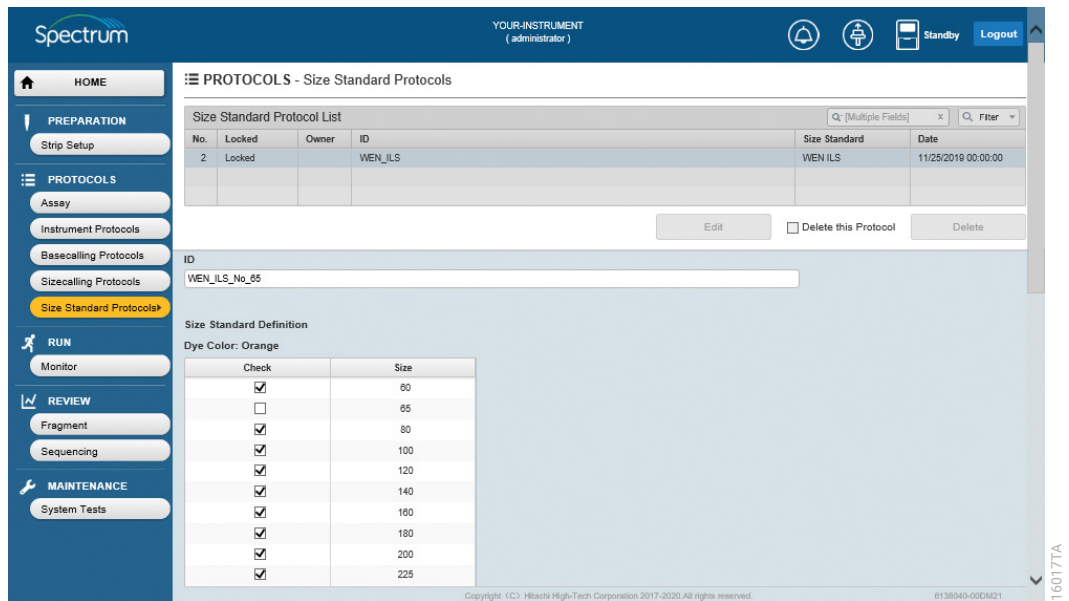

Figure 69. 'Size Standard Protocols' edit screen with edited size standard.
9. Enter a Size Standard Protocol ID for the new size standard protocol by selecting the ID field to activate the cursor (see Section 3.1 for information on acceptable and unacceptable characters). Select the desired fragments to include in the new size standard by ensuring that the box in the left column adjacent to the fragment size is checked. Uncheck boxes for those fragments that are not required in the new size standard protocol (Figure 69).